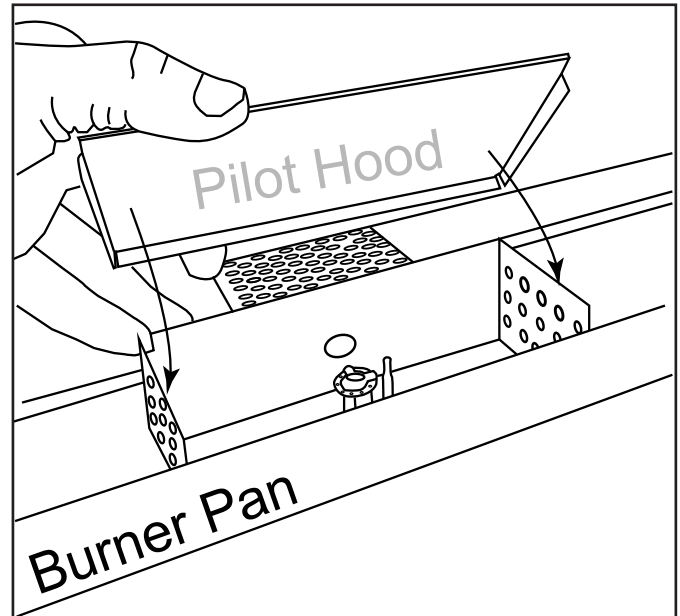

Fig. 31 Pilot hood installing over top of pilot box.
**Step 22:** Place pilot hood on top of the pilot box and ensure it sits flat, providing ventilation for the pilot at the front edge of the burner pan. See Figs. 31 and 32.
Test fire the fireplace before installing media to ensure flame is passing through igniton hole as shown in Fig. 31. This is a good time to double check for any gas leaks or electrical connections before finalizing the installation by installing the glass media.